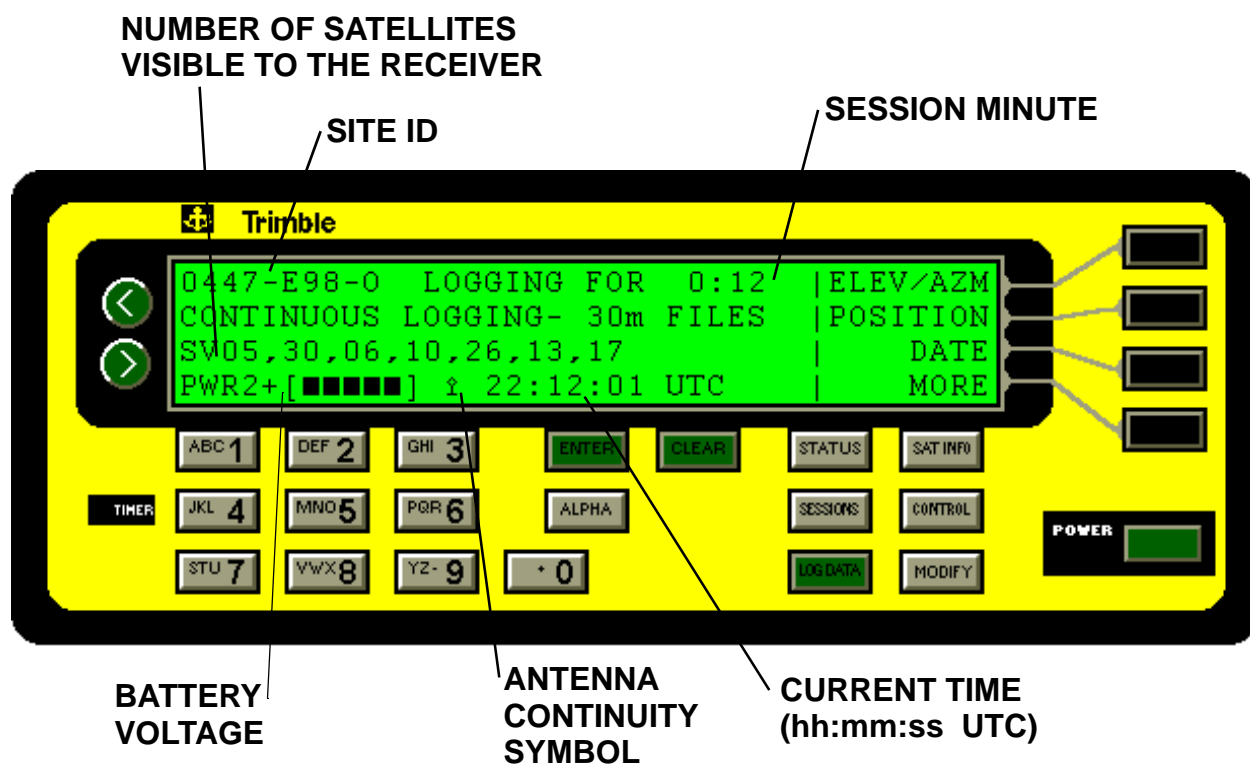

Figure 11-14 GPS Receiver Front Panel Status Display
GPS receiver and antenna operation is verified by viewing the receiver STATUS display. The STATUS display is accessed by pressing the *STATUS* key on the GPS receiver front panel. Figure 11-14 is a sample STATUS display of a working receiver and antenna. The major indicators are described below.
Number of satellites visible to the receiver. A working receiver should track multiple satellites at any given time. In the example in Figure 11-14, the third line **SV05, 30, 06, 10, 26, 13, 17** indicates seven (7) satellite vehicles (SV) are currently visible to the receiver. If the receiver is not tracking satellites, there is a problem with the receiver, antenna, or antenna cable.